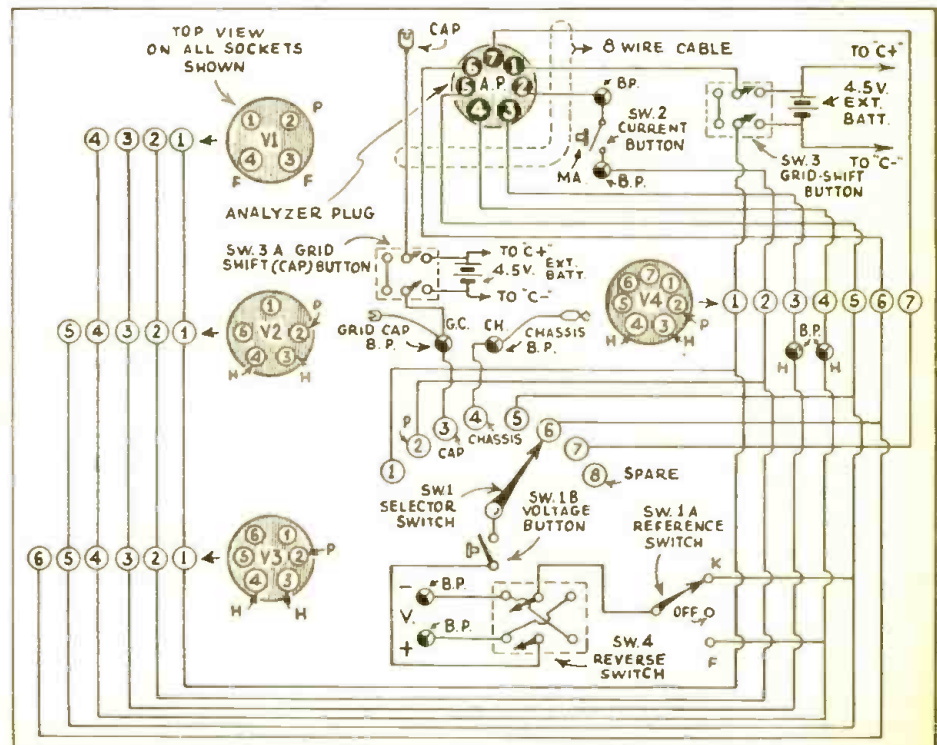

Fig. 1
we have No. 4 (H), No. 1 and No. 2 (P). Notice that Nos. 3, 4, and 2 keep their same meanings, while the other numbers will have varied meanings depending upon the type of tube used. The cap is always the control-grid, G. Referring to Fig. 1, the numbers on the taps of the selector switch Sw. 1 have the same meaning as the prong numbers, with the exception of Nos. 3 and 4 (H-H) which are taken care of by two separate binding posts marked H-H. Thus, if the switch Sw. 1 is turned to tap 2, one side of the external voltmeter—which is connected to posts V—connects to socket connection No. 2 (P) of all the sockets. This not only clarifies the actual wiring work, but also makes it very easy to organize and interpret socket connections by a chart. The other side of the voltmeter is connected through the reference switch Sw. 1A to either K (for heater tubes) or F (for filament tubes). Switch Sw. 1B is then pushed to read the voltage between the two selected points. Switch Sw. 4 is a reversing switch for use when measuring negative voltages. Since we are not using points 3 and 4 on the selector switch for the heaters, tap 3 is called "3-cap", and is connected to the grid clip (GC), measuring grid voltages for tubes with caps. Tap 4 of the switch—note the absence of the socket number, which indicates that taps 3 and 4 are not numbered corresponding to the socket prongs—is called "4-Chassis" and is connected to binding post CH from which an external lead, ending in a spring clip, connects to any convenient part of the chassis. This gives K to CH or K to ground voltages.